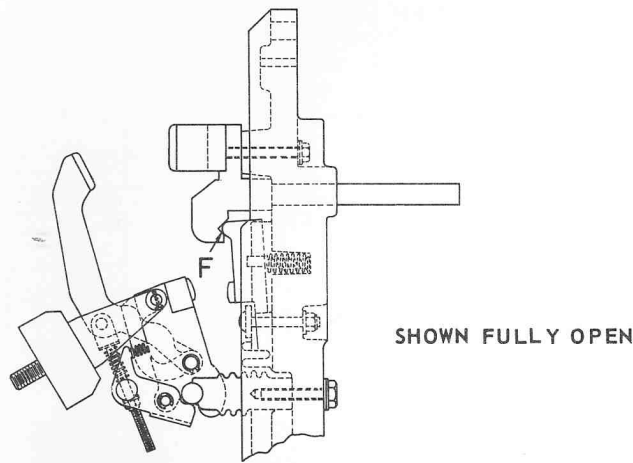

Figure 12
4. Surfaces marked "F" should be lubricated by a thin film of "Conducto-Lube #240-200" before assembly. (Figure 12).